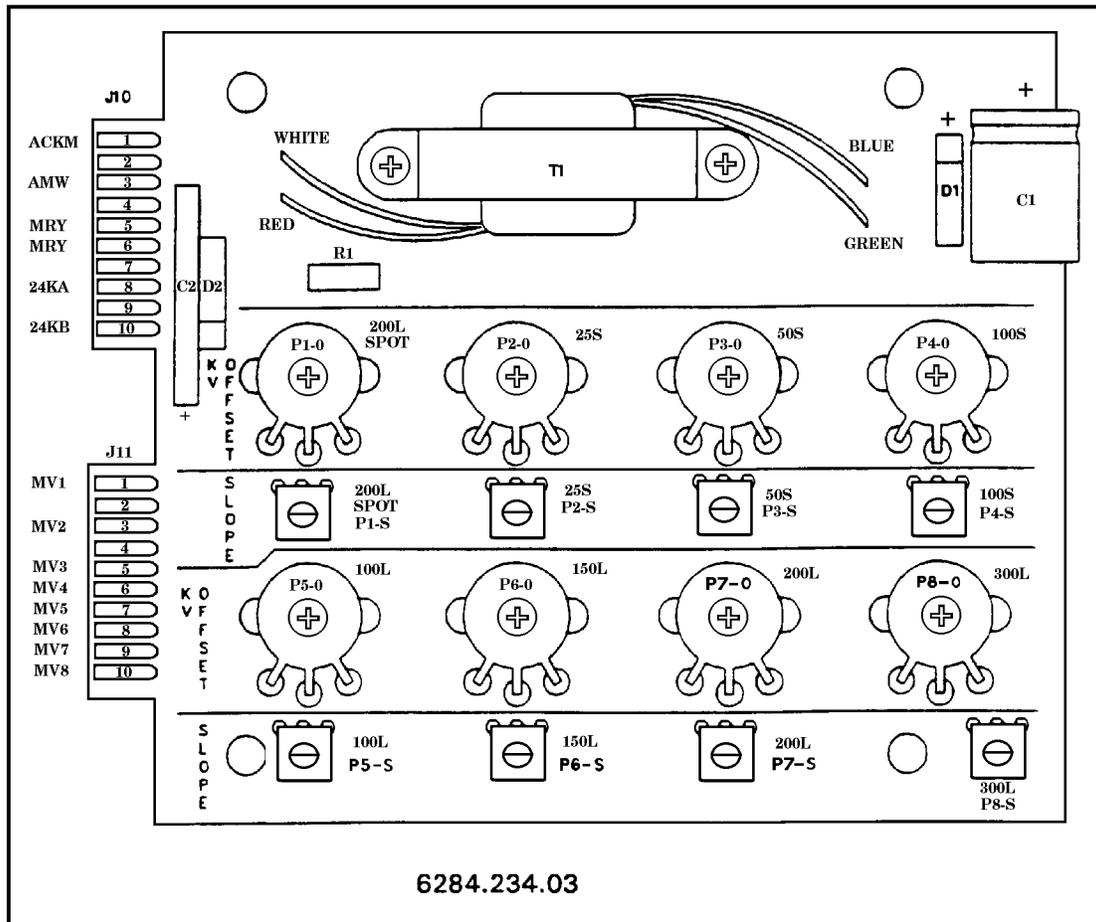

Figure 3-76
**NOTE:** Use <50 kVp> for all settings. Use a 10" Focal Detector Distance (FDD). Pots P2-0 through P8-0 ("0" for offset) are located on the kVp Compensation PCB (6284.234.03). See Figure 3-76 and adjust kVp offset compensation. Pots P32 through P38 are located on the Constant Current Filament Control PCB (6284.234.1009) and adjust space charge compensation. (See Figure 3-73.)
- (1) Begin with 25S mA, <130 kVp>, and <1-1/2 seconds>.
- (2) Make an exposure and record the mAs and the kVp readings. The meter reading should be within the specified tolerance of the selected values, as read in Table 3-7. Adjust the appropriate pot as indicated in the table.
- d. Pots P1-O and P1-S are located on the kVp Compensation PCB (6284.234.03). (See Figure 3-76.) They adjust kVp offset and slope.